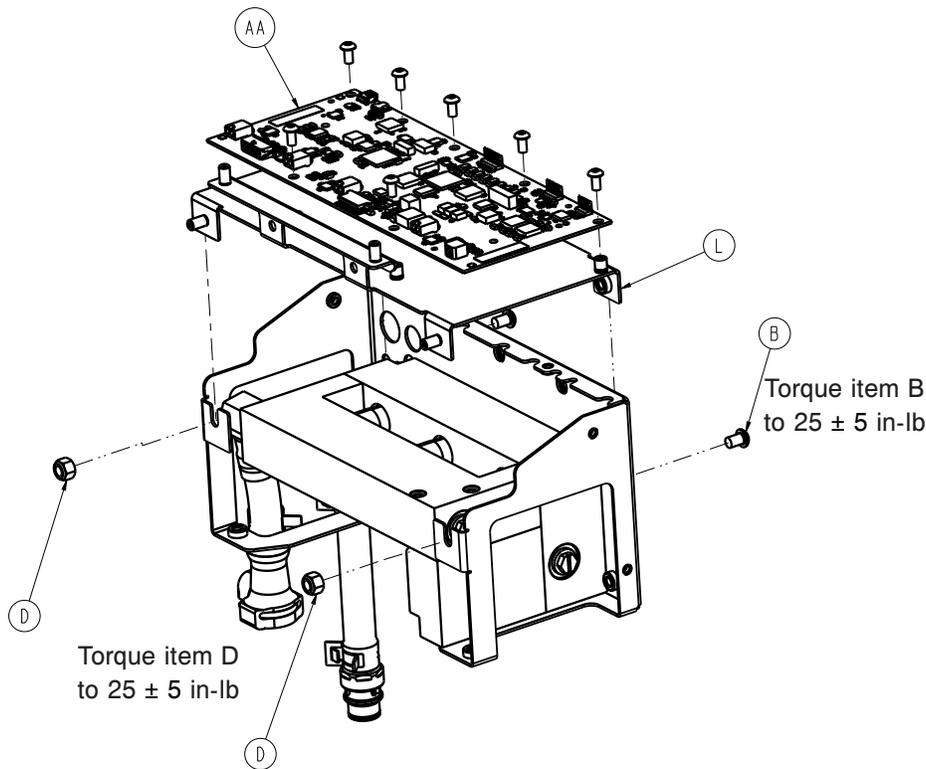

Figure 38 – Outer manifold bracket to MCB support bracket
2. Using a T25 Torx driver, remove the two screws (B) that secure the outer manifold bracket to the MCB support bracket (Figure 38). Save the screws.